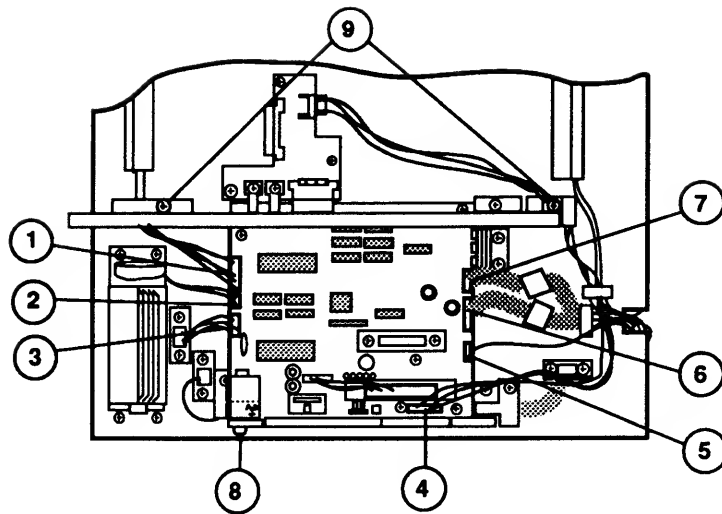

FIGURE 65
5. Place the controller-I/O board guide rail in position and replace the two screws (Figure 65, #9).
6. Place the cover interlock switch in position and replace the screw (Figure 65, #8).
- Fuser PCA cable, J206 (Figure 65, #1)
- Lower fan cable, J207 (Figure 65, #2)
- Power supply block cable, J208 (Figure 65, #3)
- High-voltage power supply cable, J211 (Figure 65, #4)
- Optical fiber cable, J201 (Figure 65, #5)
- Scanning motor PCA cable, J203 (Figure 65, #6)
- Laser diode PCA cable, J202 (Figure 65, #7)